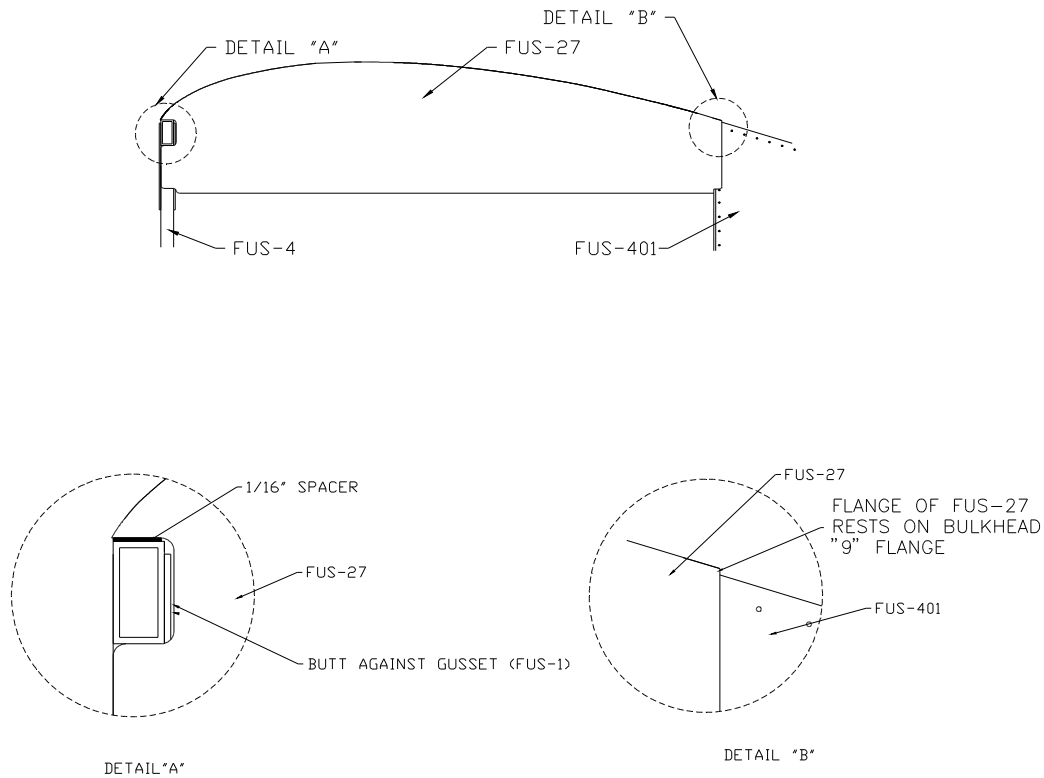

Figure 9.9.2
- 3) Position the left root rib (FUS-27) as in Figure 9.9.2.